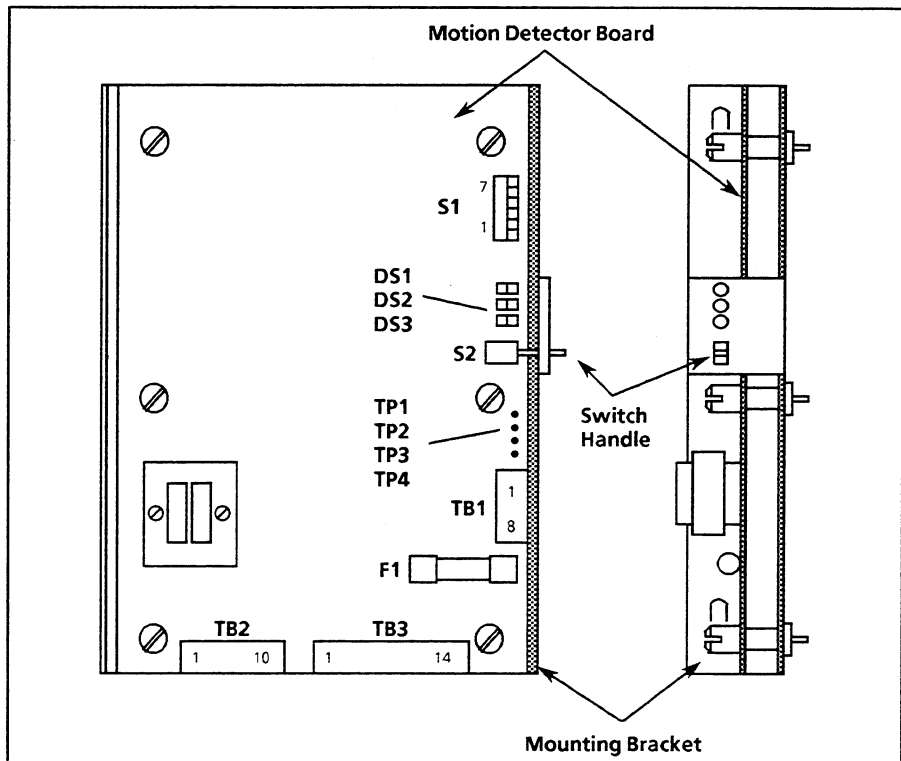

Figure 2 - Board Orientation and Component Locations
- 4. Carefully position the Motion Detector Board on the supplied bracket, inserting the Test/Reset switch handle through the panel opening (see Figure 2). Secure the board to the bracket using the captive screws supplied.
Refer to Figures 3 and 4 for general wiring connections and Figure 2 for component locations.